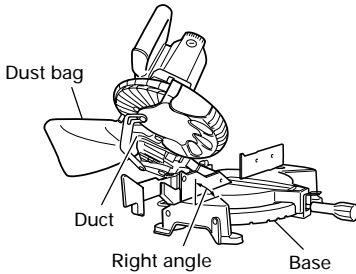

Fig. 3
(2) During bevel and compound cutting, attach the dust bag at a right angle to the base surface as shown in Fig. 3.